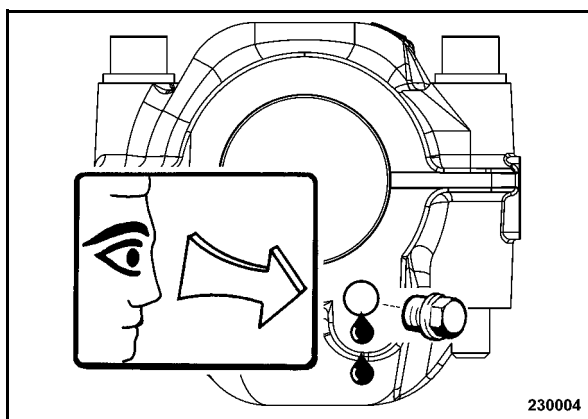

Fig. 48
- Unscrew the plug (Fig. 48) and check the oil level.